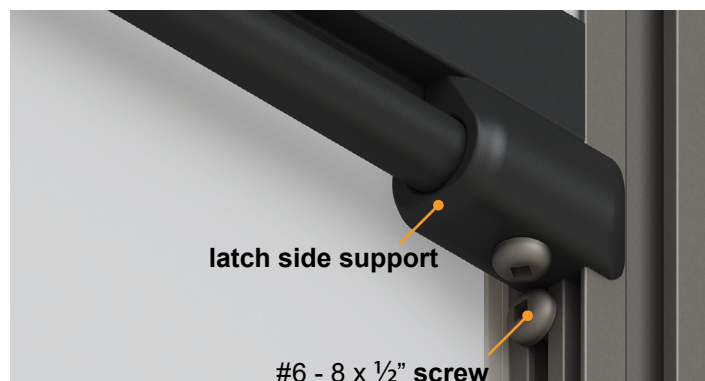

Fig.3
5. Install #6 - 8 x 1/2" screw underneath the latch side support of the Screen Shot in the channel closest to the screen (Fig.3).